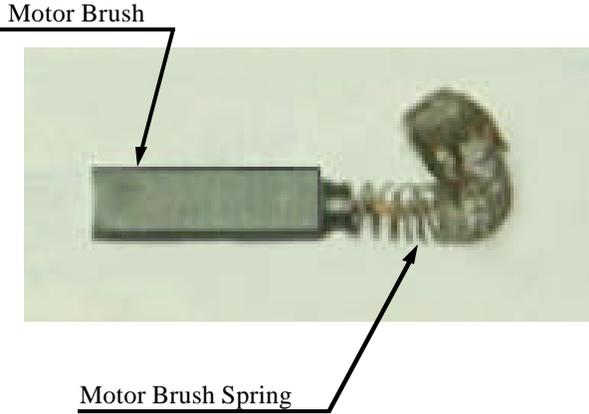

Figure 3.
6.2 Motor Brush Replacement (Model 706B) (refer to Figure 3.)